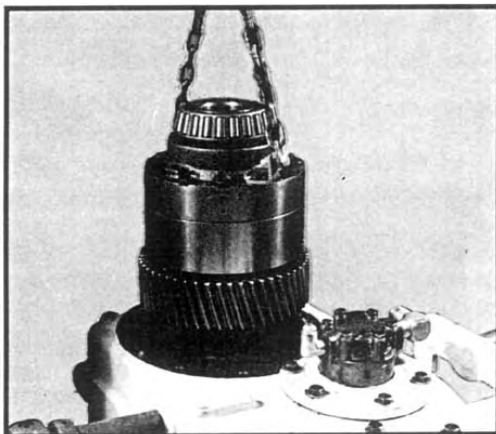

Fig 60
5. Make sure that the front bearing cup is still in place. Lower the lower shaft assembly into place. See Figure 60.